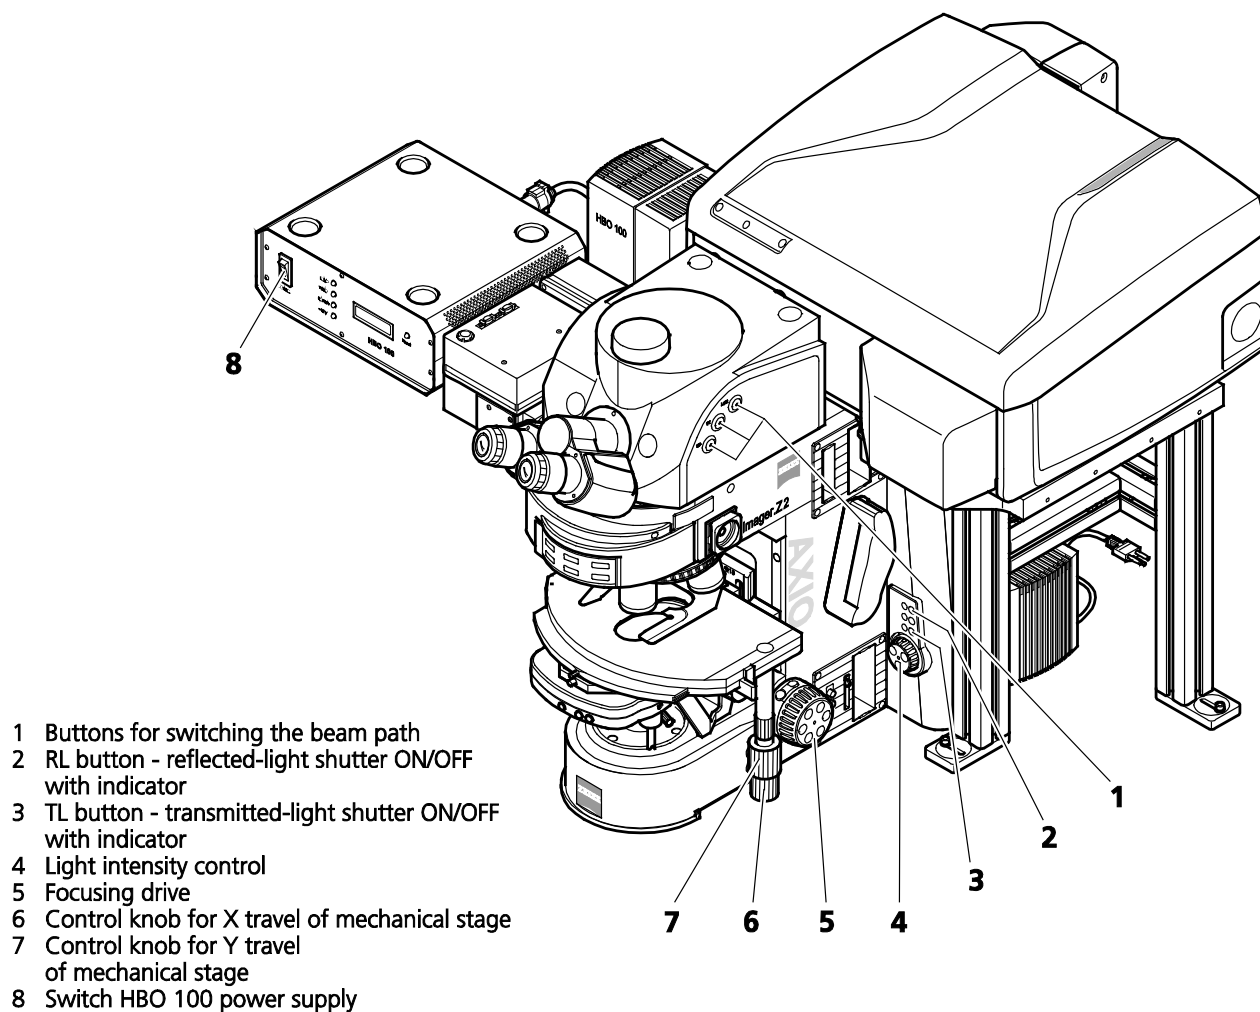

Fig. 61 **LSM 880 with Axio Imager.Z2**
(1) Microscope settings on Axio Imager for transmitted-light observation
- Pull out the push rod (Fig. 61/1) to switch the beam path of the tube in LSM position.
- Control the brightness of the halogen lamp with the potentiometer (Fig. 61/4) or the **Intensity %** slider in the **Microscope Control** tool.
- Use the focusing drive (Fig. 61/5) to focus the required object plane.
- Select specimen detail by moving the stage in X and Y using the XY stage fine motion controls (Fig. 61/6 and 7).
(2) Microscope settings on Axio Imager for reflected-light observation (Epi-fluorescence)
- Turn on the HBO 100 W or X-Cite power supply with switch (Fig. 61/8)